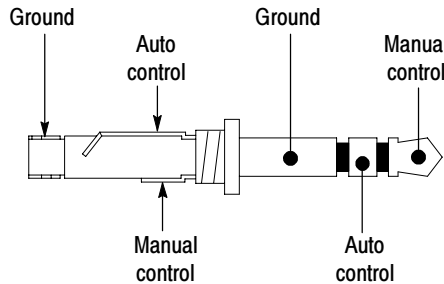

Figure 5: Typical stereo phone plug connections
- Identify the connection of the phone plug that is manual control portion of the phone plug. See Figure 5.
- Identify the connection of the phone plug that is the auto control portion of the phone plug. See Figure 5.